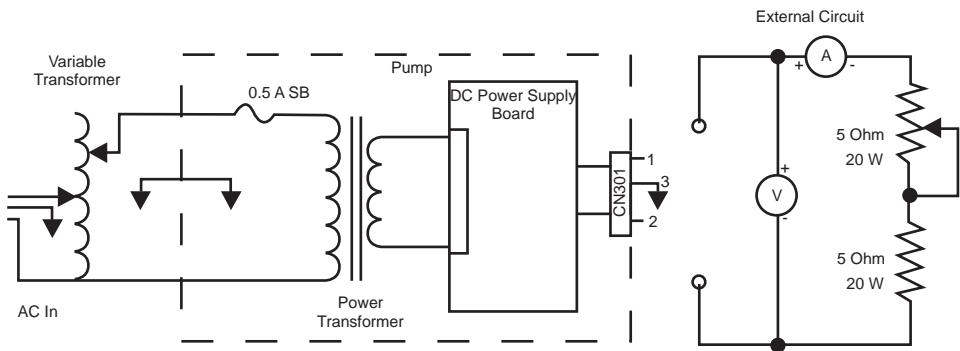

Figure 9-1 Calibration Equipment Setup
12.1 Connect the calibration circuit shown in Figure 9-1.
- External circuit consisting of a 10Ω , 10 watt resistor in series with a 10Ω , 10 watt potentiometer (see Figure 9-1).
- 12.4 Connect the external circuit as illustrated in Figure 9-1 with the positive lead connected to pin 2 and the negative lead connected to pin 3.